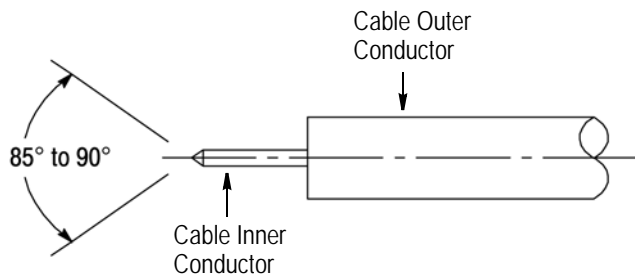

Figure 4
2. Shape the blunt end of the inner conductor to an 85° to 90° cone as shown in Figure 4.